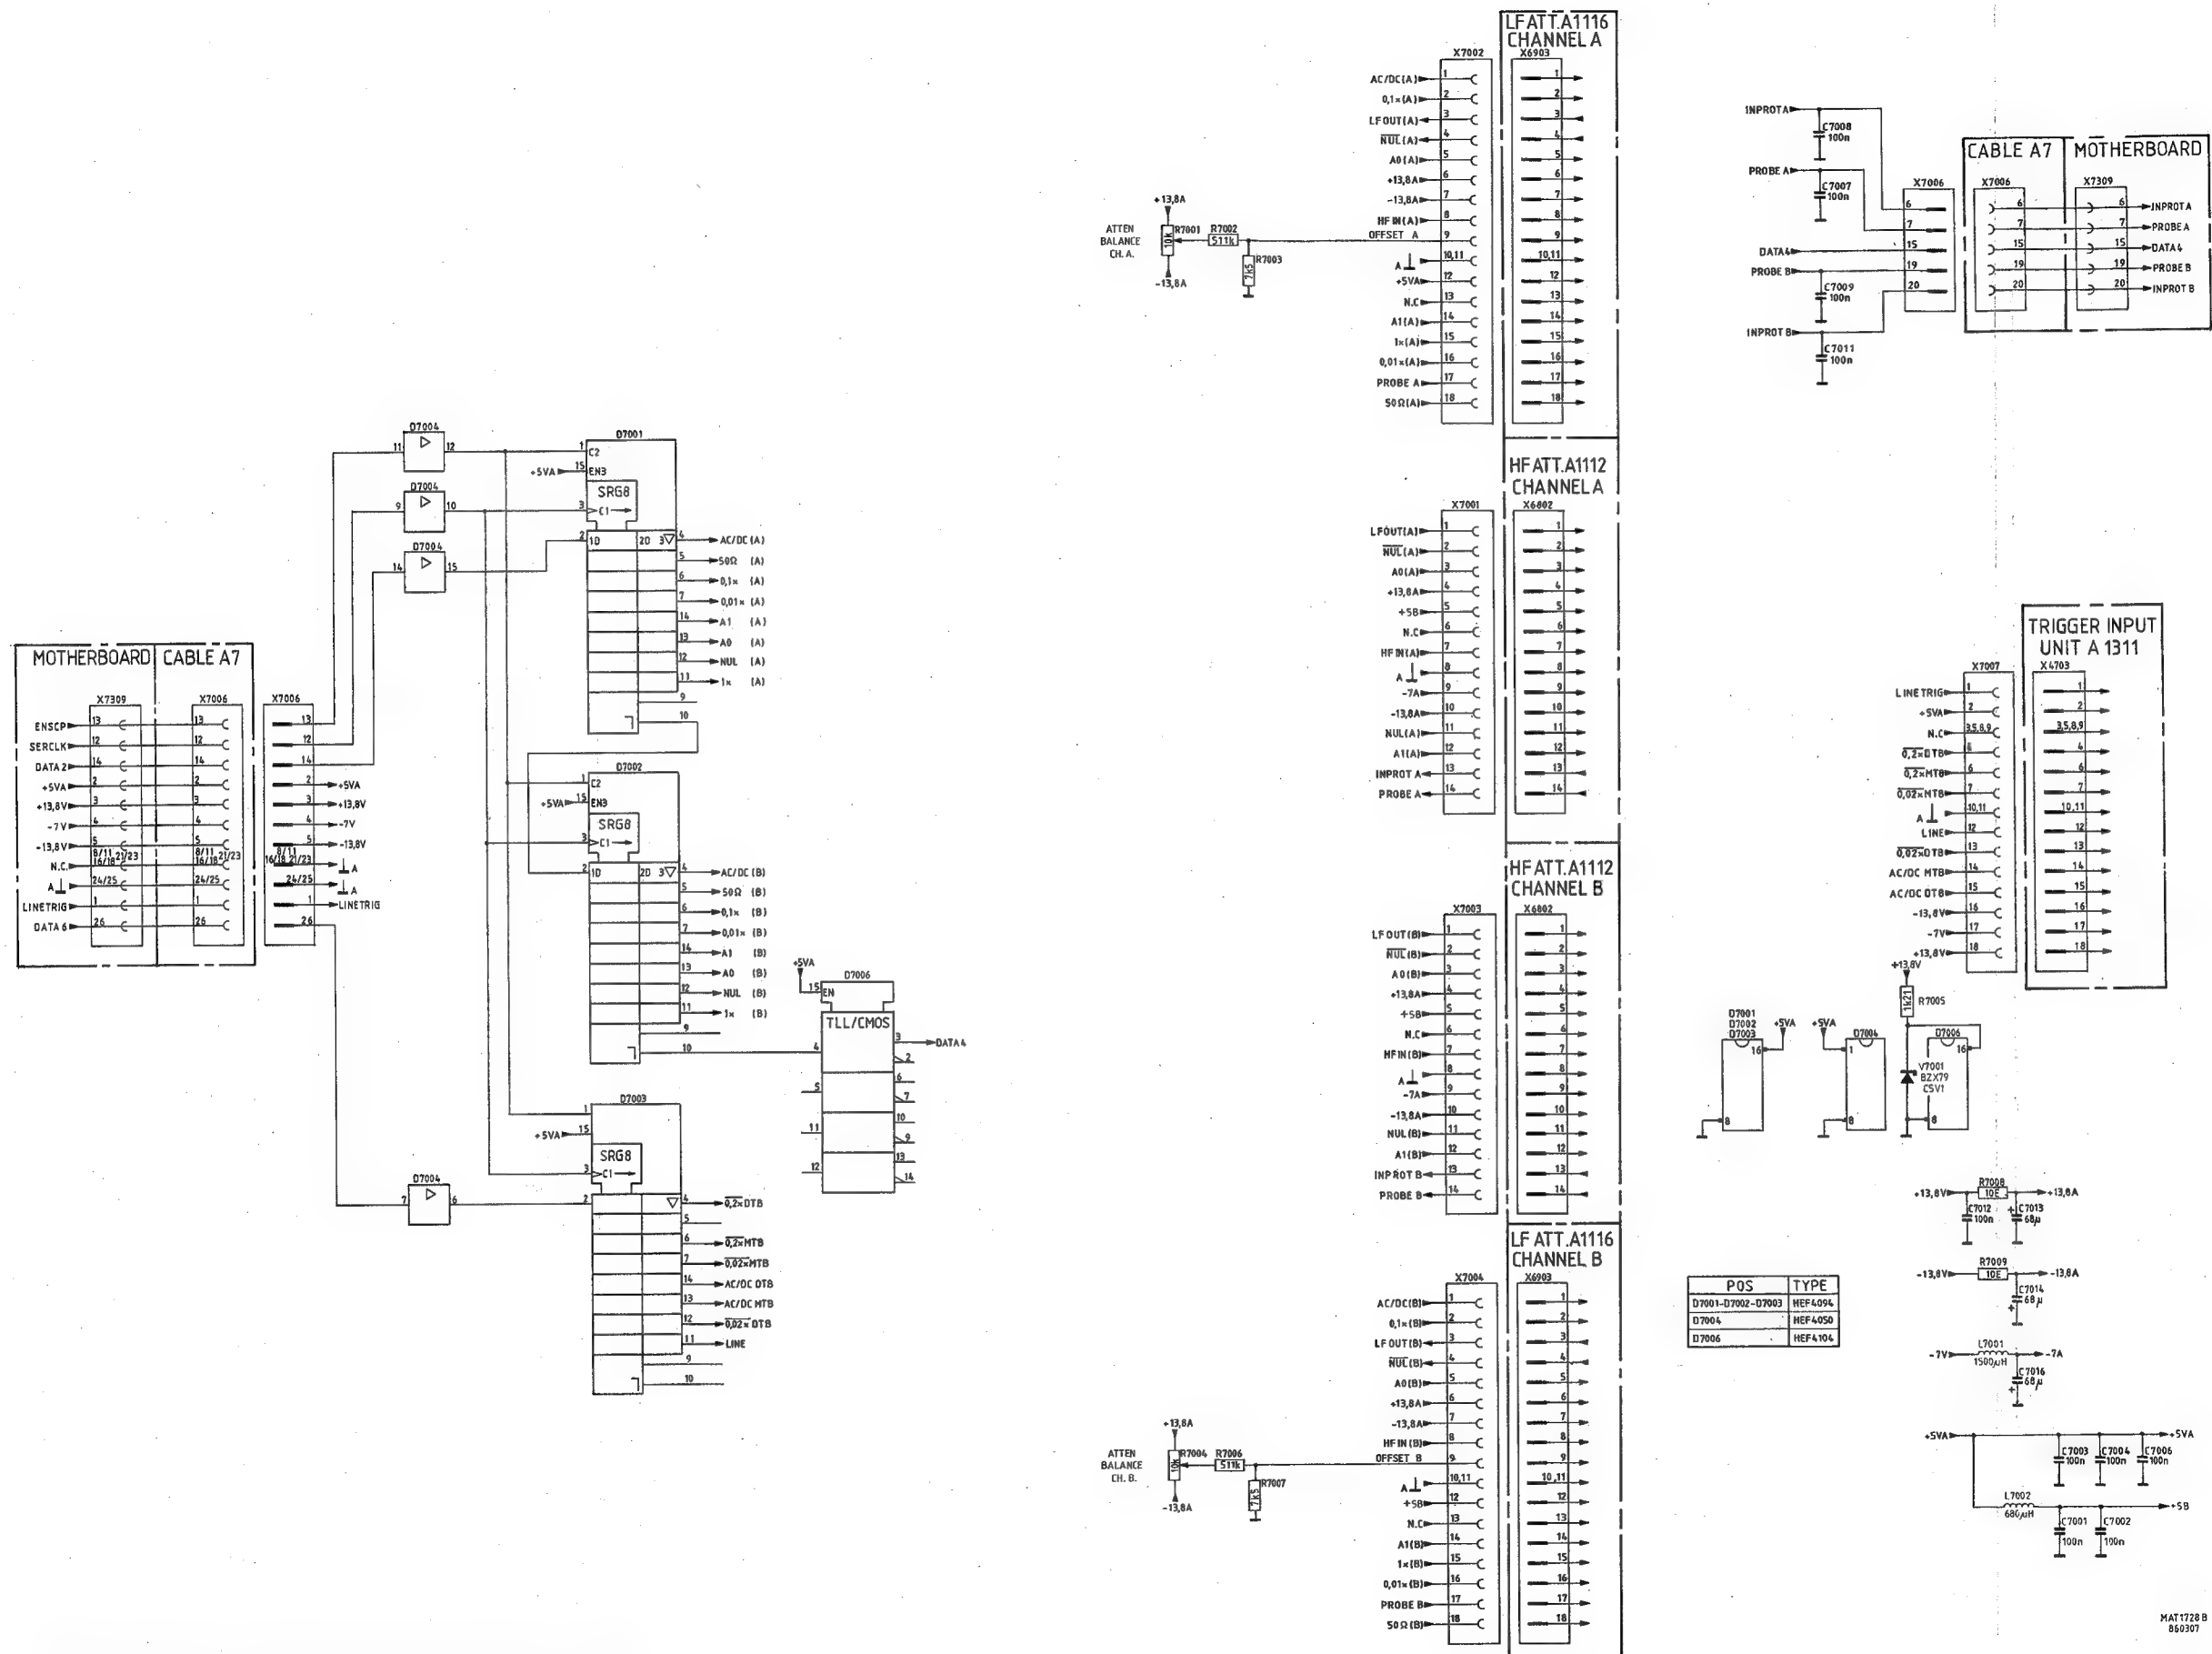

Fig.12.2. Adaptation unit, circuit diagram
12. CIRCUIT DESCRIPTION OF ADAPTATION UNIT (see fig.12.2.)